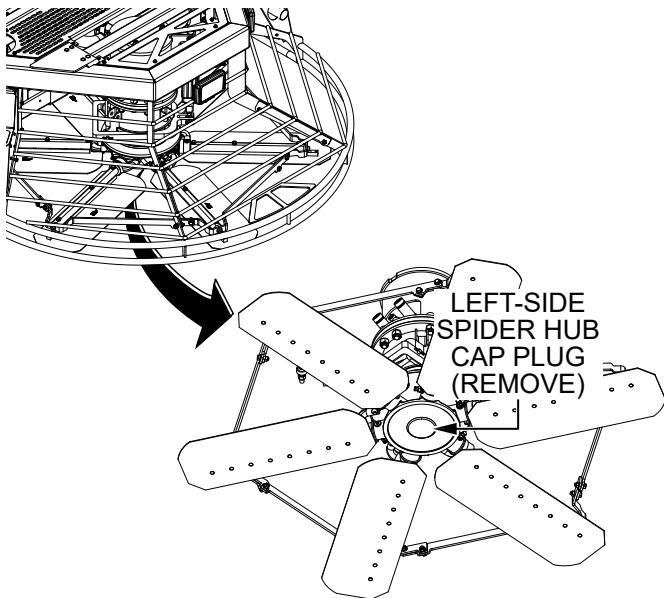

Figure 5. Remove Left-Side Spider Hub Cap Plug
1. Remove the left-side spider hub cap plug (Figure 5) and set it aside.